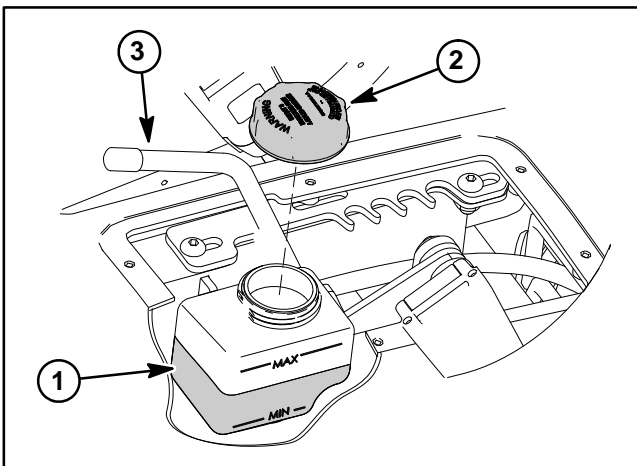

Figure 16
3. Remove six (6) washer head screws that secure control plate to seat base console. Lift control plate from seat base to access the speed control system reservoir (Fig. 16).